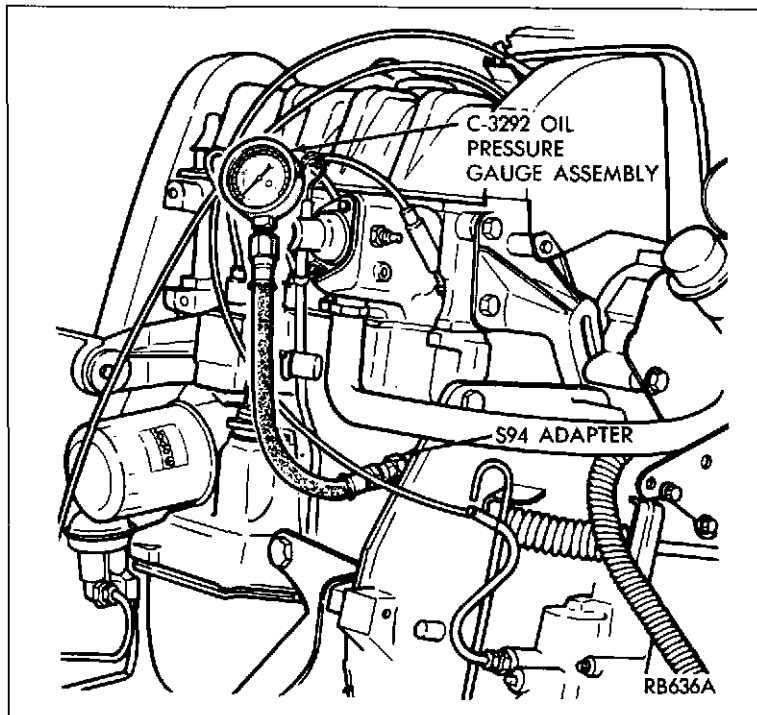

Fig. 5—Checking Oil Pressure
2. Oil pressure. Checking oil pressure will require an oil gauge (the C-3292 Oil Pressure Gauge Assembly is recommended, Fig. 5). With the engine at idle (cold engine), oil pressure should be 310 kPa (45 psi). With the engine at 2000 rpm and the oil temperature at 80°C (176°F), oil pressure should be 345 kPa (50 psi).